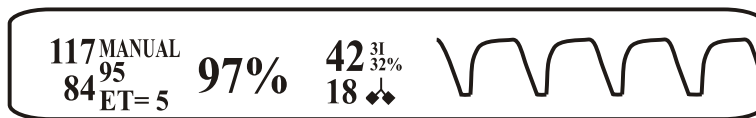

Figure 1-6. Vital Signs Numeric Display
c. **Vital Signs Numeric Display.** (See Figure 1-6) The Vital Signs Numeric Displays provides numeric indications for NIBP and SpO2 along with numerics and a waveform trace for EtCO2/Respiration. The following is a description of the Vital Signs Numeric Display:
- (1) **NIBP Numerics.** The patient's Non-Invasive Systolic, Mean and Diastolic pressures are displayed here along with a visual indication of the operational status of the NIBP System (Automatic or Manual) and the Elapsed Time (ET) since the last NIBP determination.
- (2) **SpO2 Numeric.** The patient's Oxygen Saturation value is displayed here if P2 is On.
- (3) **EtCO2/Respiration Display.** (If EtCO2 Option is installed) The patients EtCO2/Respiration values are displayed to the right of NIBP and, if P2 is On, the SpO2 numeric. This display consists of numeric values concerning EtCO2 and Respiration plus Respiration Waveform Trace.